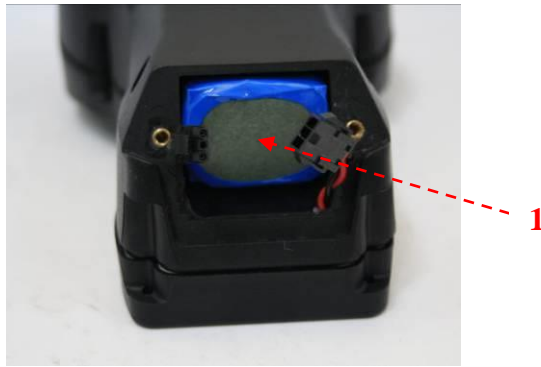

Figure 41
9.4.3 Remove the battery pack (item 1 Figure 41).